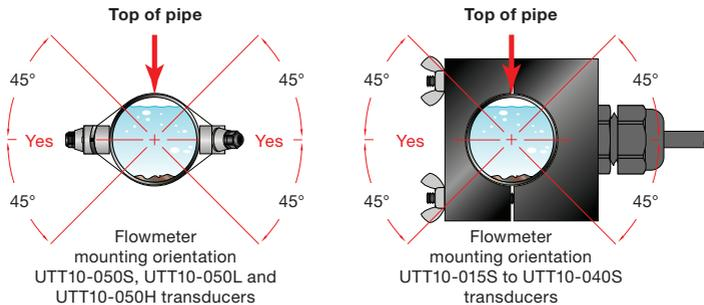

Fig. 8 Transducer orientation — Horizontal pipes
The UTT10-050S, UTT10-050L and UTT10-050H transducers must be properly oriented and spaced on the pipe to provide optimum reliability and performance. On horizontal pipes, when Z-mount is required, the transducers should be mounted 180° from one another and at least 45° from the top-dead-center and bottom-dead-center of the pipe. See Fig. 8. Also see "*Mounting transducers in Z-mount configuration*" on page 28. On vertical pipes the orientation is not critical.
UTT10-015S to UTT10-040S transducers should be mounted with the cable exiting within $\pm 45^\circ$ of the side of a horizontal pipe. See Fig. 8. On vertical pipes the orientation does not apply.
- 2) On horizontal pipes, mount the transducer in an orientation such that the cable exits at $\pm 45^\circ$ from the side of the pipe. Do not mount with the cable exiting on either the top or bottom of the pipe. On vertical pipes the orientation does not matter. See *Fig. 8* on page 22.